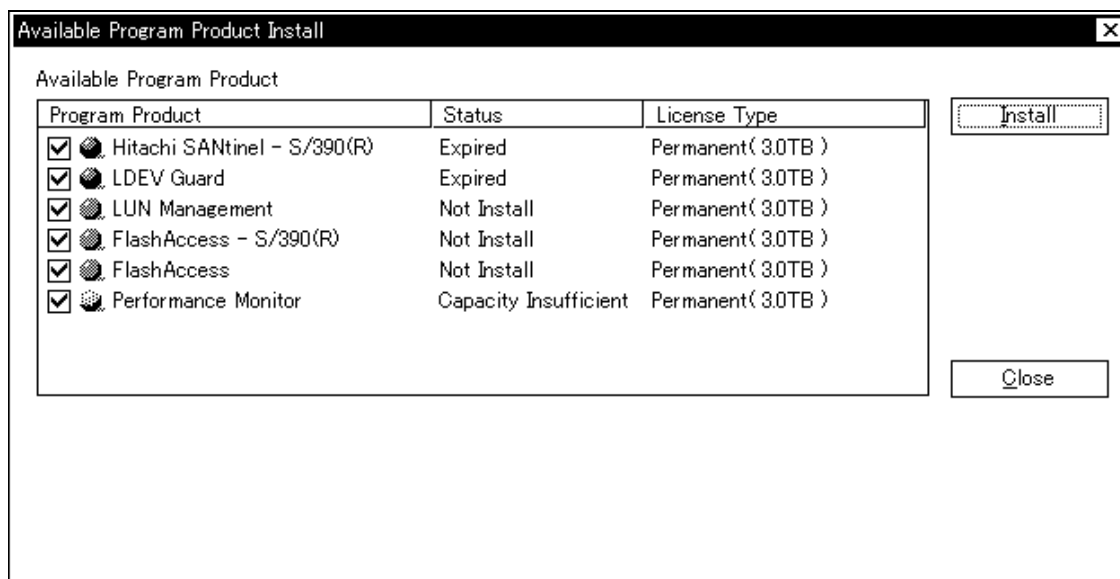

Figure 4.3.5 Available Program Product Panel
- The **Available...** button opens the Available Program Product Install panel (see Figure 4.3.5).